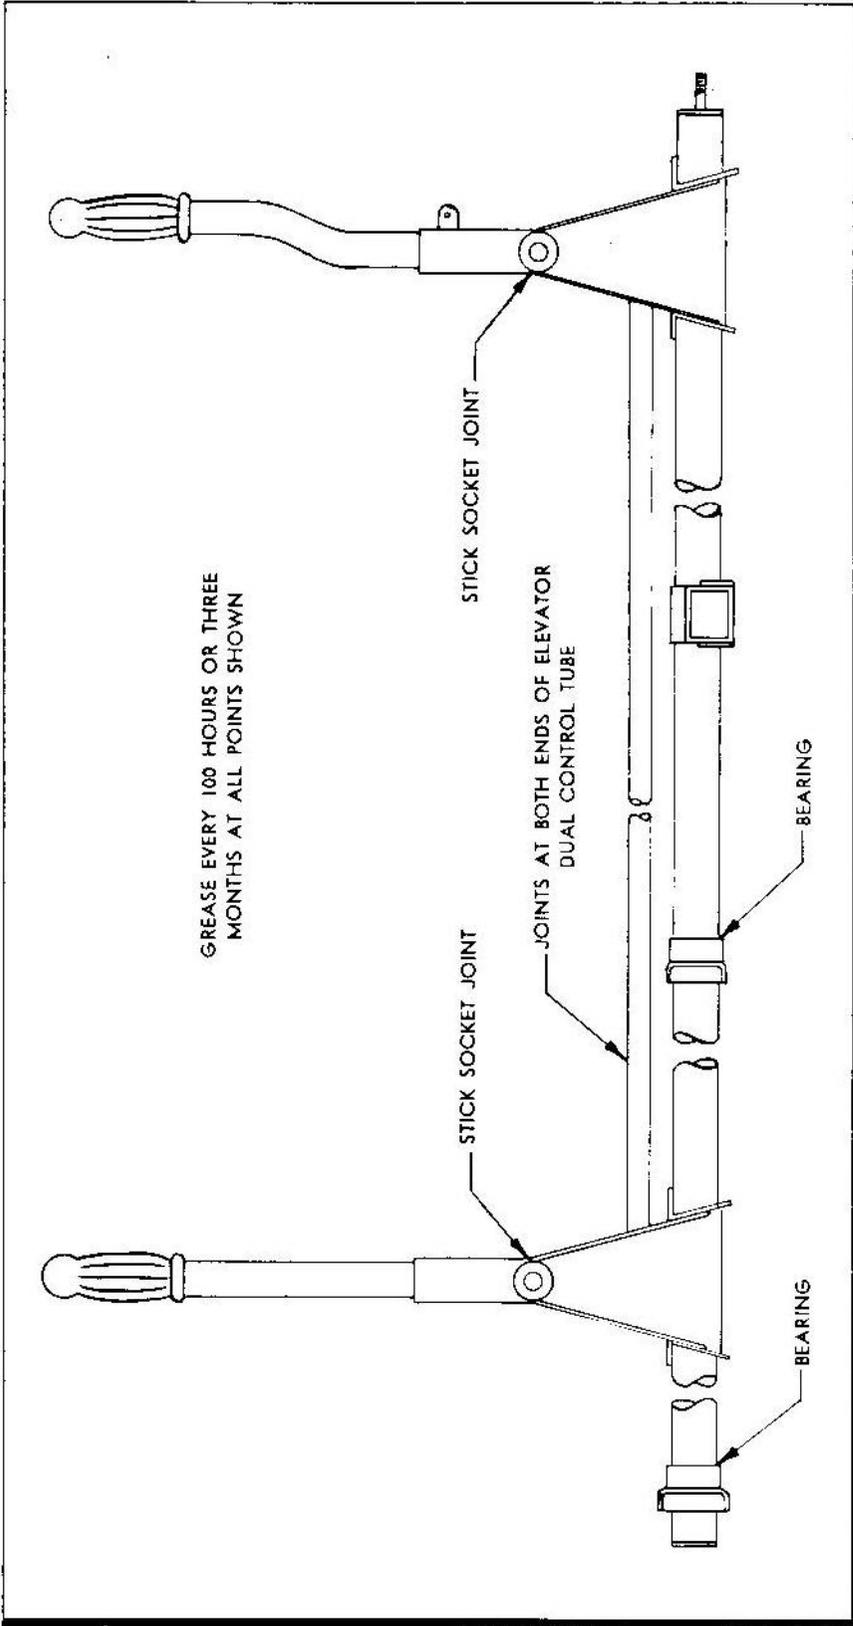

Figure 12 - Control Column Lubrication Diagram
- (1) Control column. (See figure 12.)
- (2) Rudder pedals.
- (3) Aileron and spoiler controls, which are located in rear cockpit above pilot's head.